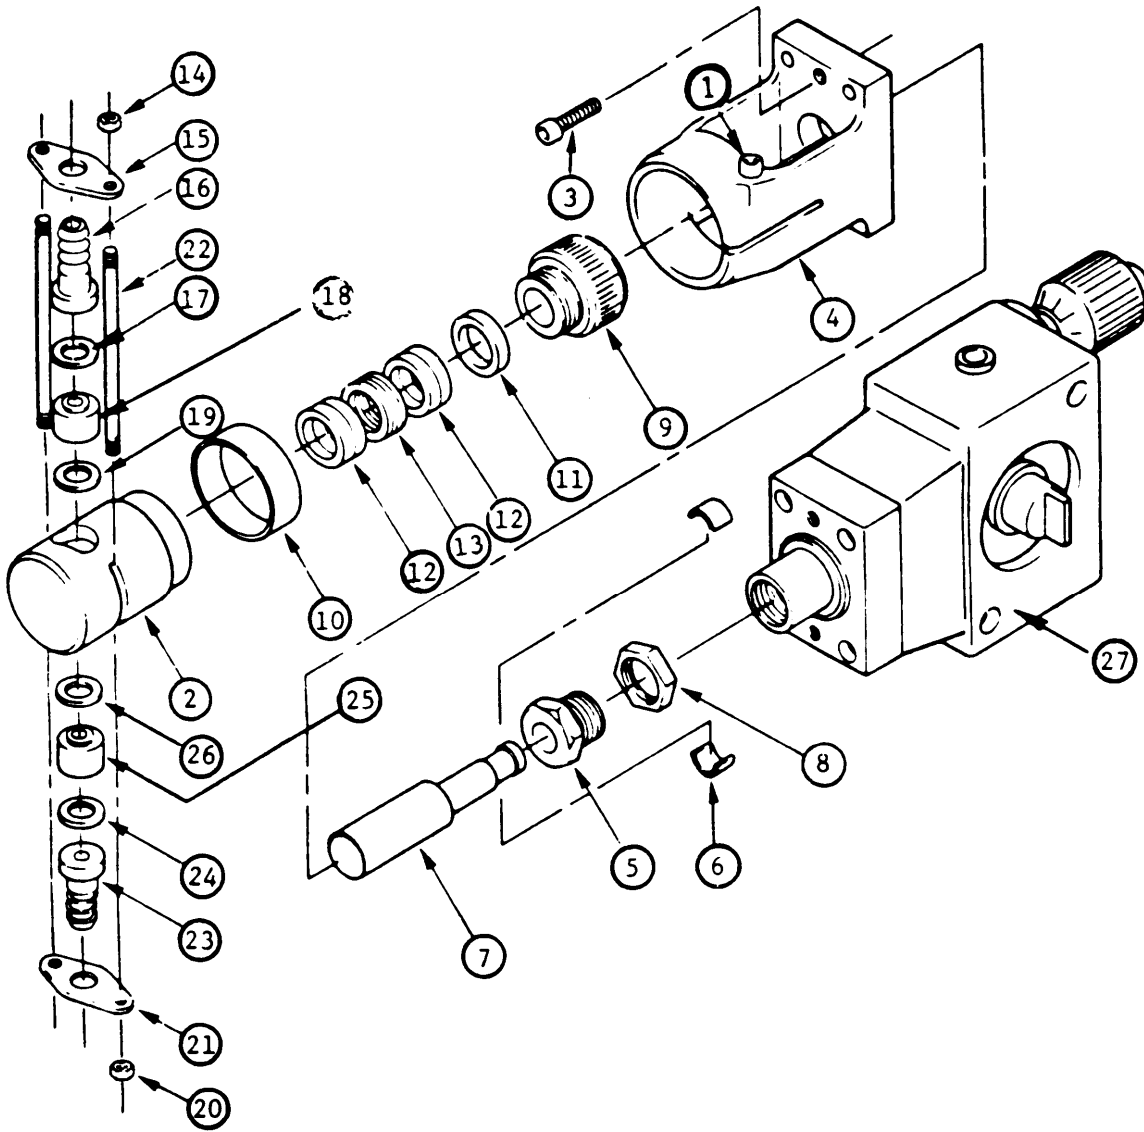

Figure 3-29. Chemical Feed Pump Head Assembly (ARMY)
c. Disassembly. (Figure 3-29) (ARMY)
- (1) Loosen gland nut (9) to relieve pressure on plunger (7).
- (2) Loosen, but do not remove, yoke screw (1) and spread yoke-type holder (4) gently.